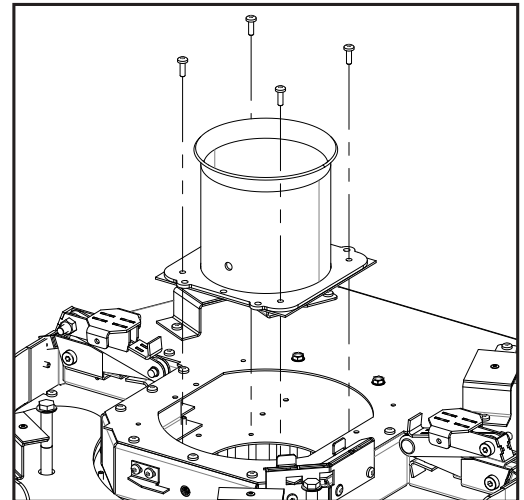

**Figure 68: Restrictor Rod Removal**
6. Remove the threaded rod from the exhaust spigot (see Figure 68). A power drill with a 7/16" socket and extension will be helpful here.